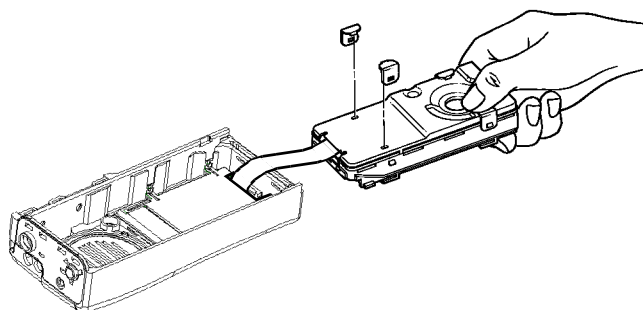

Figure 1-15. Place Chassis Opposite of Front Housing
8. Place the chassis assembly and front housing assembly on a flat surface with the top face of housing in a reverse and opposite direction (Figure 1-15)